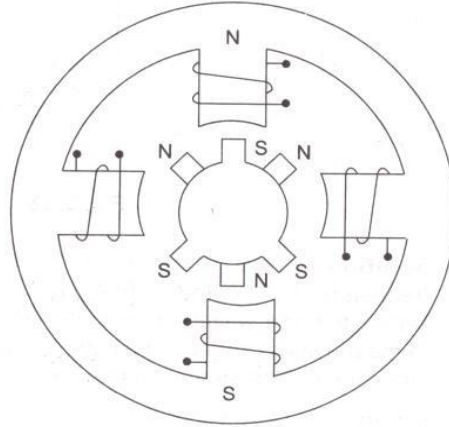

Fig.1 Internal schematic of a four winding stepper motor
- The internal schematic of a typical stepper motor with four windings is shown in fig.1.